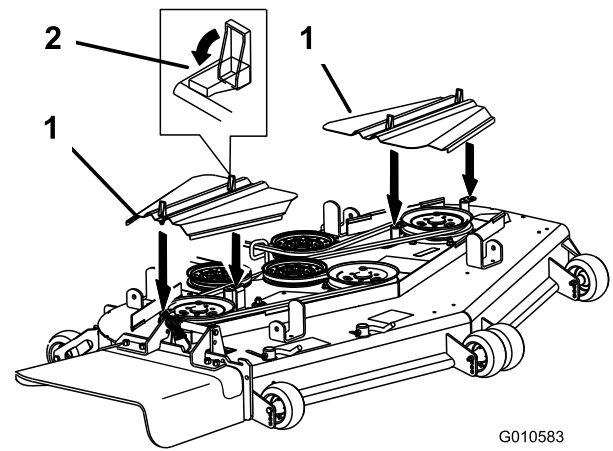
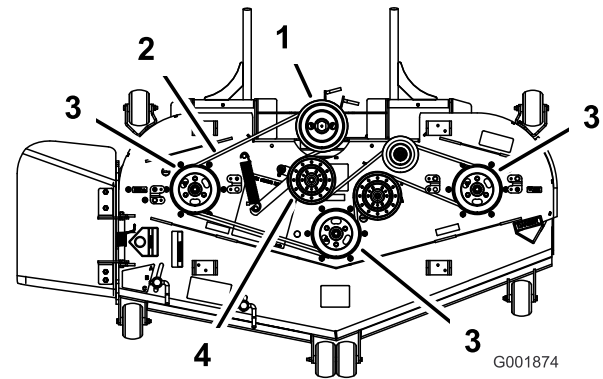
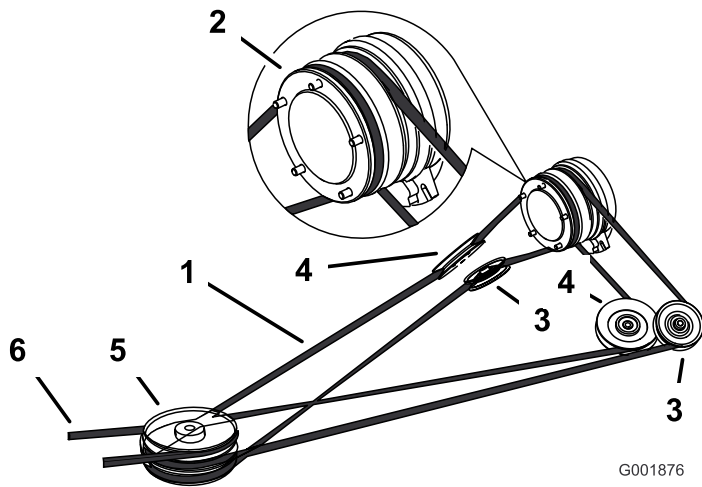

Figure 64
Figure 65
Figure 67
3. Remove the belt covers (Figure 64).
5. Remove the mower belt from the mower pulleys and the top pulley of the three stacked pulleys (Figure 64 and Figure 65).
6. Install the new belt around the mower pulleys and the top pulley of the three stacked pulleys (Figure 64 and Figure 65).
7. Pull on the spring loaded idler arm to loosen the belt tension and align the mower belt onto the idler pulley (Figure 65).
8. Install the belt covers and close the latches (Figure 64).
4. Pull on the spring loaded idler pulley to loosen the belt tension (Figure 67).
5. Remove the mower belt from the top pulley of the three stacked pulleys (Figure 65 and Figure 67).
7. Install the new drive belt around the clutch pulley, the adjustable idler pulleys, the spring loaded idler pulley, and the front three stacked pulleys (Figure 67).
9. Install the mower belt around the mower pulleys and the top pulley of the three stacked pulleys (Figure 65 and Figure 67).